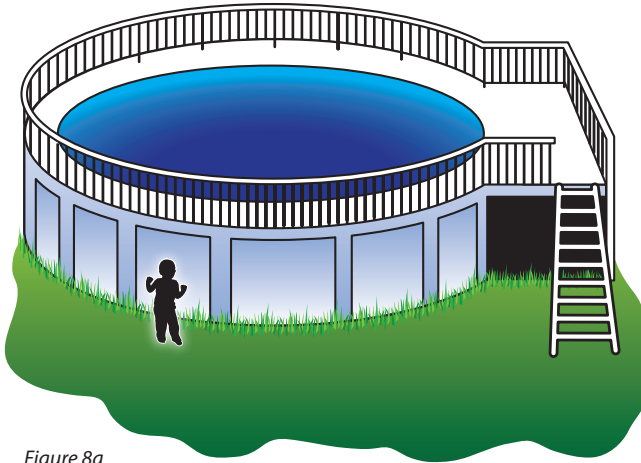

Figure 8a
12. Where an **above-ground pool structure is used as a barrier**, or where the barrier is mounted on top of the pool structure, and the means of access is a ladder or steps (figure 8a), then